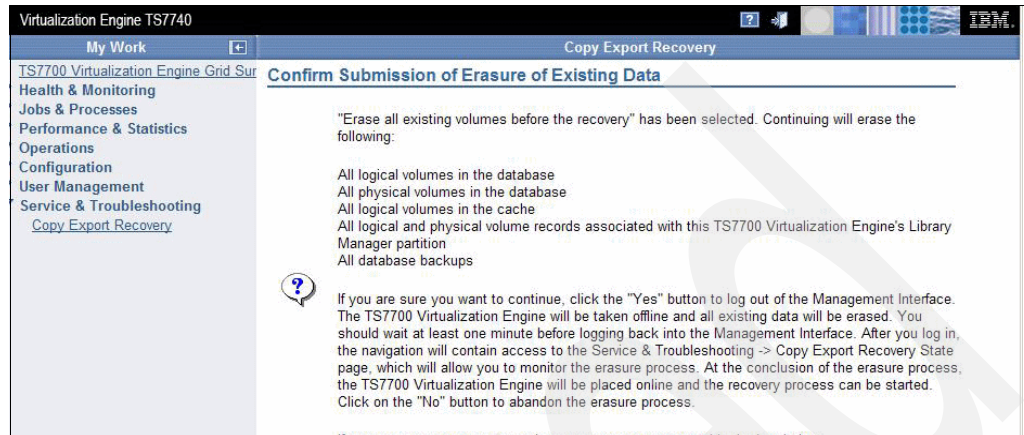

Figure 9-13 Menu to confirm Copy Export Recovery
- c. Click **Submit**. Then, confirm the submission as shown in Figure 9-13.